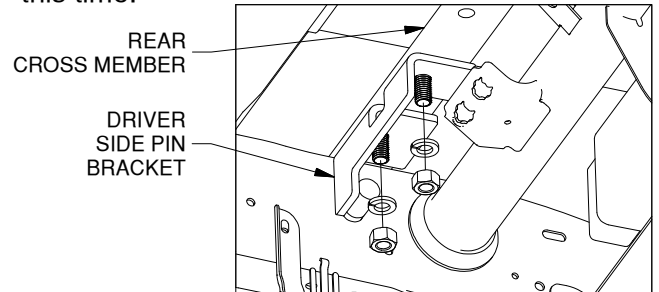

FIGURE B3: View looking up at driver side truck frame.
3. Install the pin brackets. The mounting kit contains a driver side and passenger side pin bracket. The driver side can be identified by having a notch cut in it for clearance of a fuel canister tube on some models. When they are installed correctly the pin will be in the hole on the inside of the frame and the bolt holes will face up and forward and align with the two outside holes on each end of the rear cross member. Place a 1/2" x 1-1/2" bolt with a lock washer and nut in the four holes that bolt the pin brackets to the rear cross member, see Figure B3. Do not tighten hardware at this time.